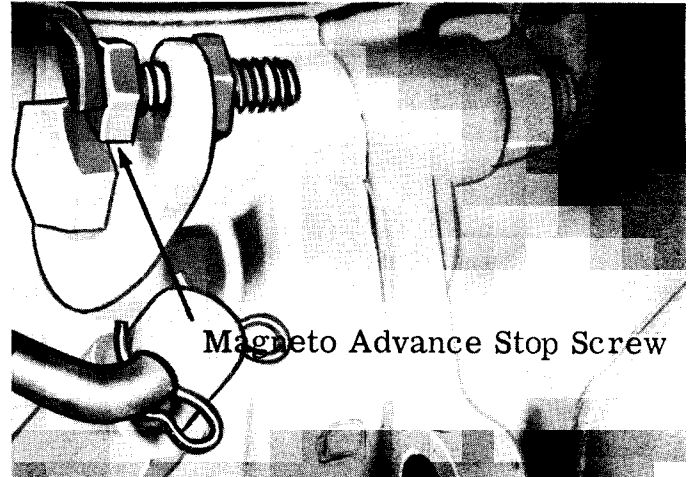

Figure 2. Magneto Advance Stop Screw Adjusted
- Hold magneto at this position and adjust magneto advance stop screw to just touch magneto stop and tighten lock nut. (Figure 2).